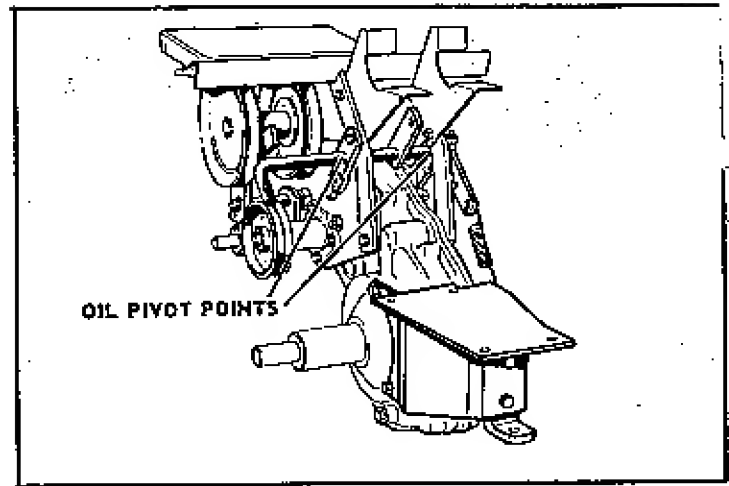

FIGURE 3
4. Oil clutch and brake linkage pivot points. (Fig. 3); and check for proper operation. Refer to Fig. 4 for Adjustment Dimensions.